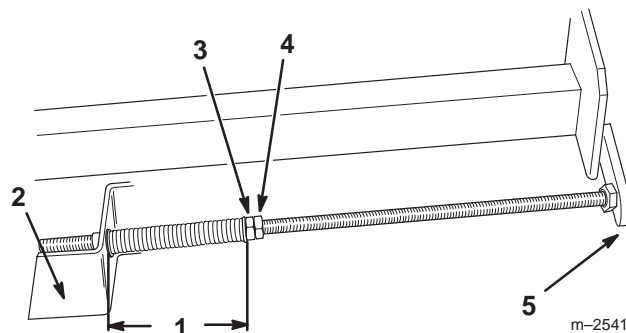

Figure 7
6. Insert the spring end of the adjusting shaft into the hole in the deck mounting bracket (Fig. 7).
7. Insert the small end of the bushing into the hole in the deck mounting bracket (Fig. 7).
8. Insert the locknut end of the adjusting shaft into the carrier frame mounting tab (Fig. 7).
10. Measure the spring compression between the spacer and the bushing (Fig. 7).
11. Tighten the rear jam nuts (Fig. 7).